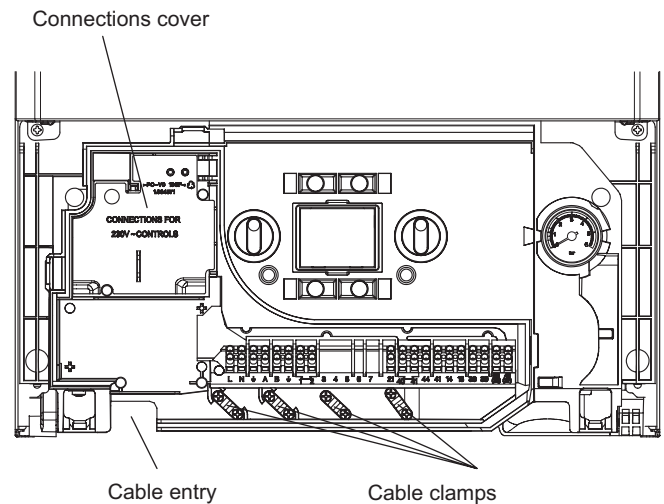

Fig. 4.15
**Note:** Do not remove the 230 V controls connection cover, see Fig. 4.15
1. Remove the screw securing the connections cover labelled 'connections for 230 V controls' to expose the receiver/clock connections. See Fig. 4.15.